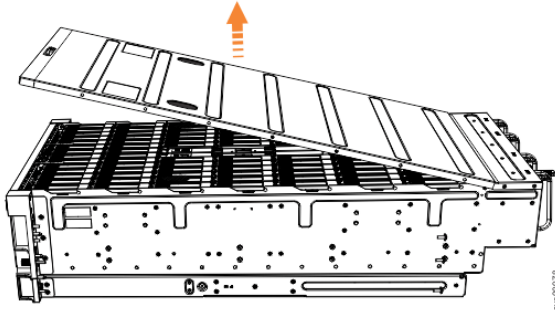

Figure 143. Removing the 5U expansion enclosure cover
4. Carefully lift the cover up, as shown in Figure 143 on page 181.